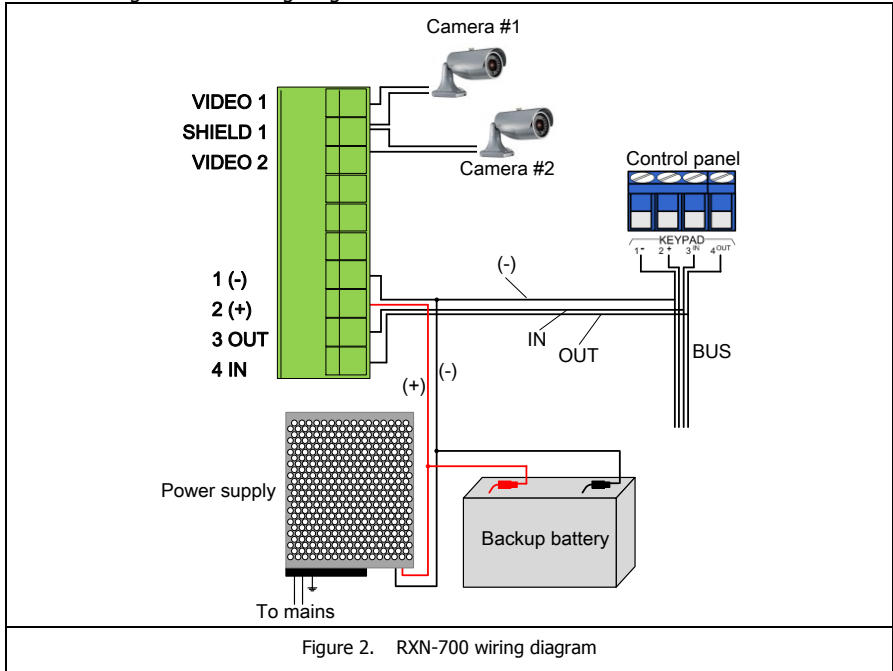

Figure 1. Wall box with knockouts
2. When the PIMA logo is displayed, click (using the keypad's plastic stick) the "Exit to Windows" button. See the green rectangle on Figure 1.